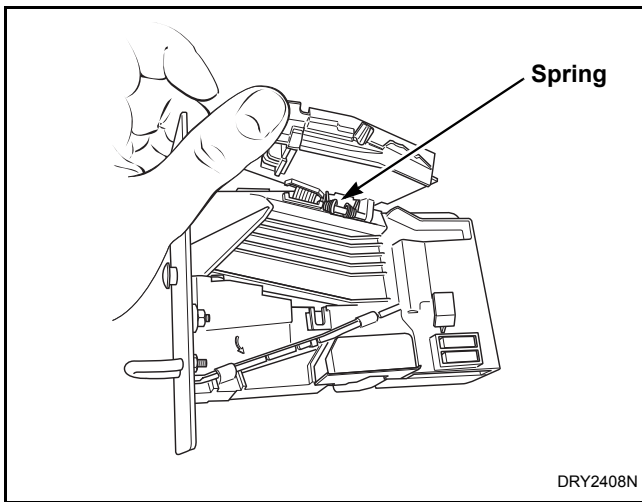

Figure 27
- (3) Open cover of coin drop. Refer to *Figure 27*.